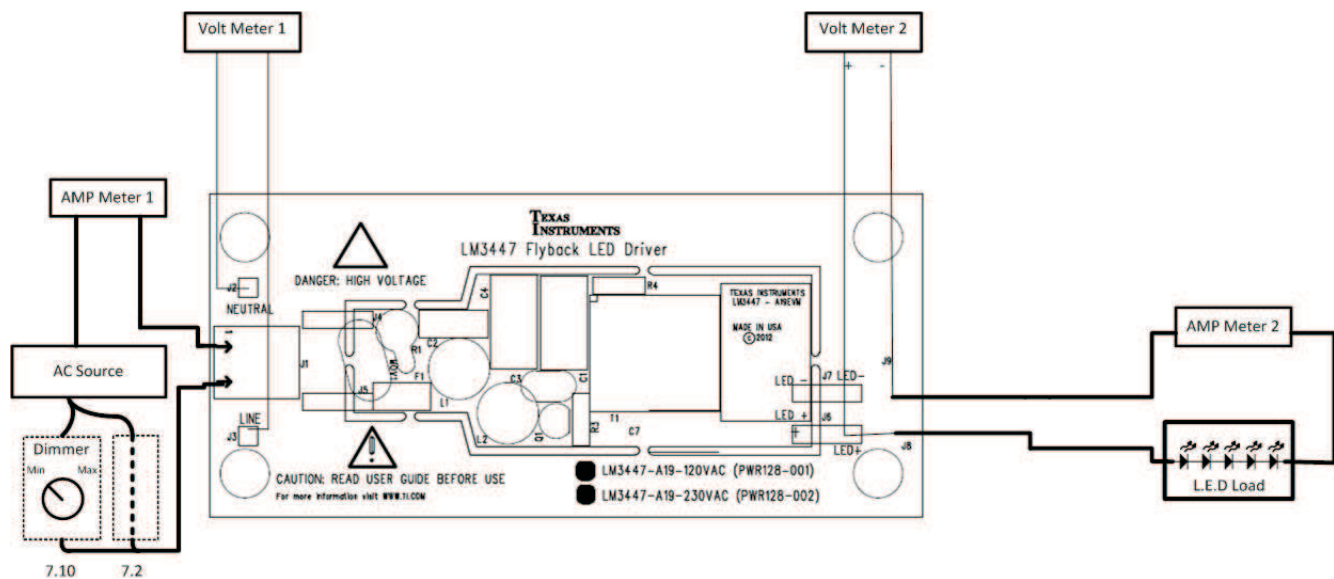

Figure 2. LM3447-A19-230VEVM Recommended Test Set Up
1. Connect EVM per Figure 2 above. An external LED load must be used to start up the EVM.
3. Connect scope probe to EVM per Figure 2 above to bridge rectifier output.